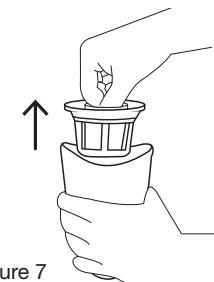

Figure 7
2. Remove the filter holder/filter/pre-filter assembly so that you can extract the motor unit from the container (Fig. 7).